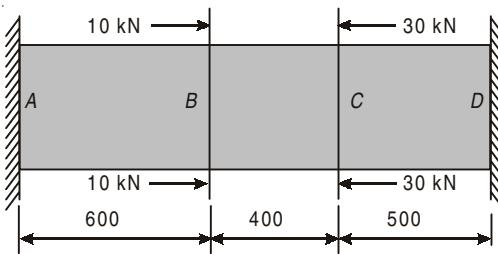

Fig. 1.30
- 1.57. An initially straight bar AD has a uniform cross-section and is clamped to the end supports as shown in Fig. 1.30. Initially the bar is stress free. The symmetrical loads as shown are applied to the brackets (whole effect is to be neglected) and it is desired to find the resultant tensile or compressive force acting over any normal cross-section in each of these three regions AB , BC and CD ,